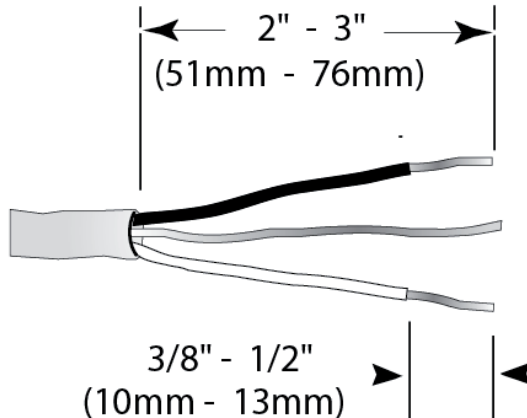

Figure 8
2. Remove 2" to 3" (51 - 76 mm) of the outer casing of the household or field supply wiring as shown in **Figure 8**. Remove 3/8" to 1/2" (10 - 13 mm) of the insulation from each wire as shown in **Figure 8**.